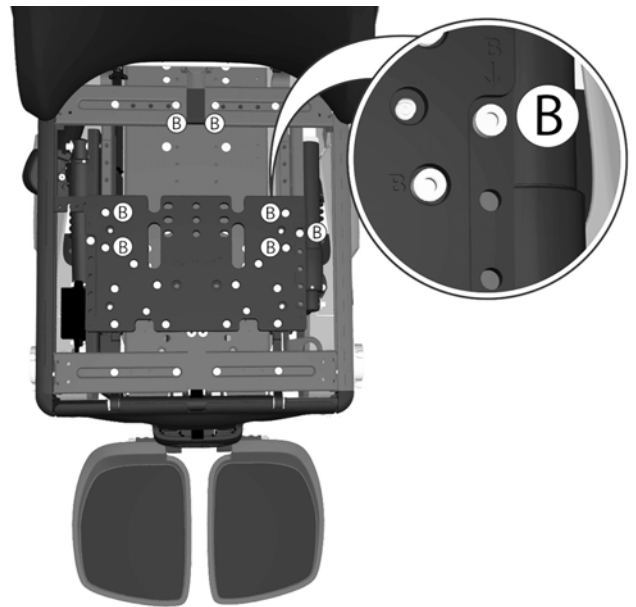

Figure 245. The position of the rear section of the Seat frame (Back rest Position) is fixed by five screws marked with the letter B.
- 7. **Adjustment of the rear section of the Seat frame (Back rest position):** Remove the seven screws marked (B) securing the Seat frames rear section, see fig. 245.